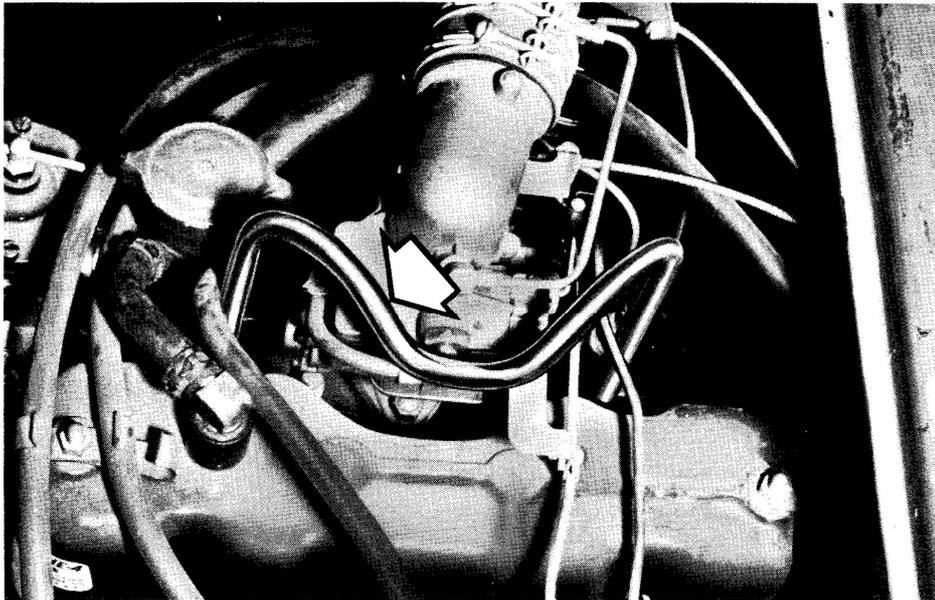

Fig. 13. Engine lifting bracket.
- a. Remove the rear bolt from the engine lifting bracket, Fig. 13.